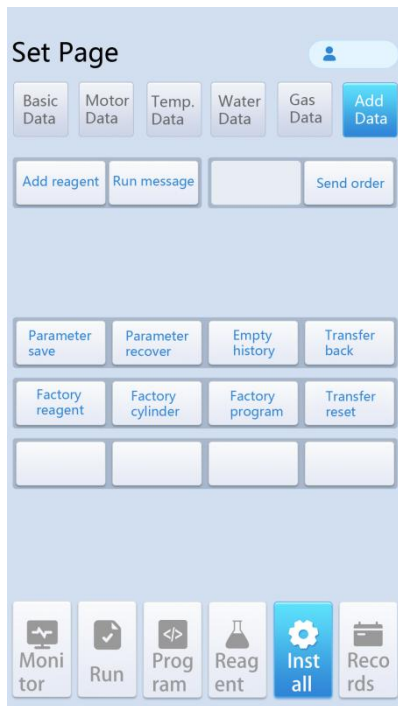

Figure 18 Additional parameter interface
6. Additional parameters: It is used to set some additional parameters of the system, as shown in Figure 18. The specific operation mode is as follows